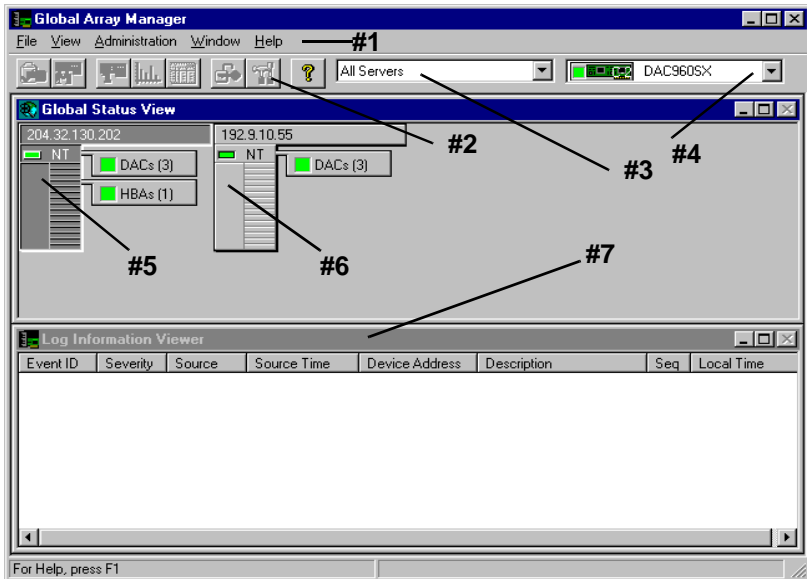

Figure 3-1. Opening Screen
Upon startup (with defined servers), Global Array Manager Client displays the opening screen, consisting of the Global Array Manager window, the Global Status View window and the Log Information Viewer (Figure 3-1).
The major components of the Global Array Manager window (Figure 3-1) are described below:
The major components of the Global Status View window (Figure 3-1) are described below:
7. Item #7 in Figure 3-1 is the GAM Client *Log Information Viewer*. Each line in the Log Information Viewer identifies a single *event* (error, status, warning, etc.) which was noted during monitoring by a file server running GAM Server, and was transmitted by that server to this client workstation. Relevant details accompany the event: